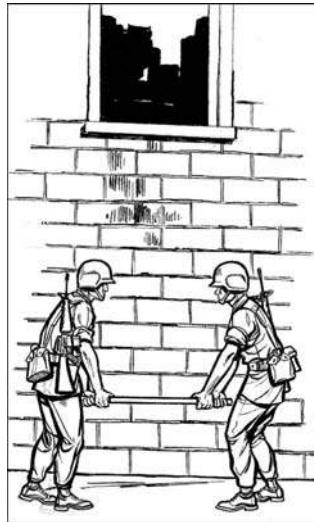

Figure 071-326-0542-5. Two-man lift support position
- (1) Two Soldiers face each other, holding a support such as a board or tree limb (figure 071-326-0542-5).